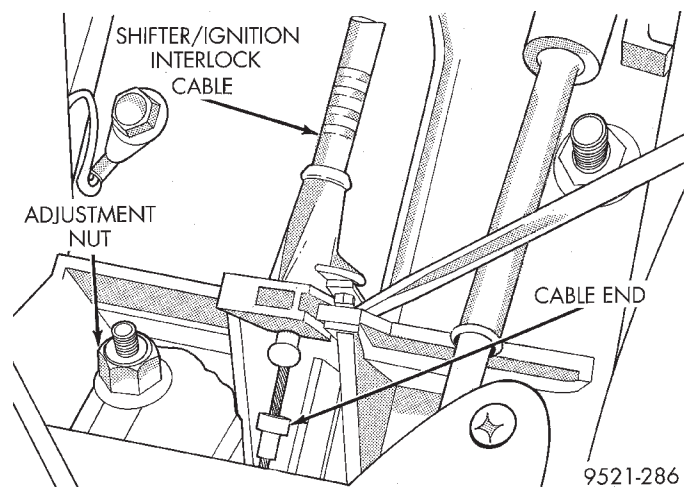

Fig. 11 Shifter/Ignition Interlock Cable
- (1) Disconnect and isolate, the battery negative (-) cable at the left side strut tower.
- (2) Remove the gearshift knob set screw and knob.
- (3) Remove console assembly. Refer to Group 23, Body.
- (4) Unsnap the shifter/ignition interlock cable end fitting from the groove in the gearshift mechanism (Fig. 11).